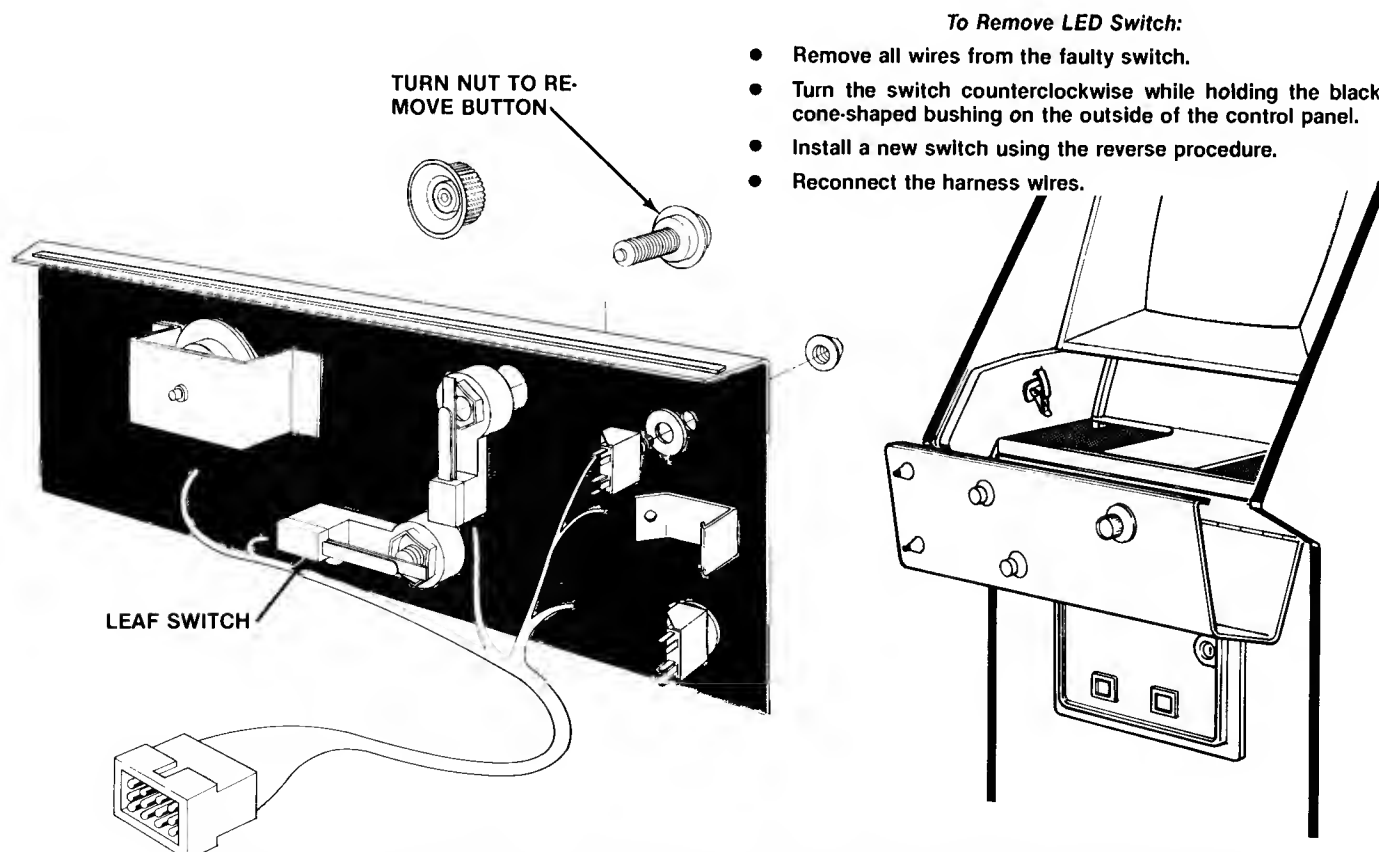
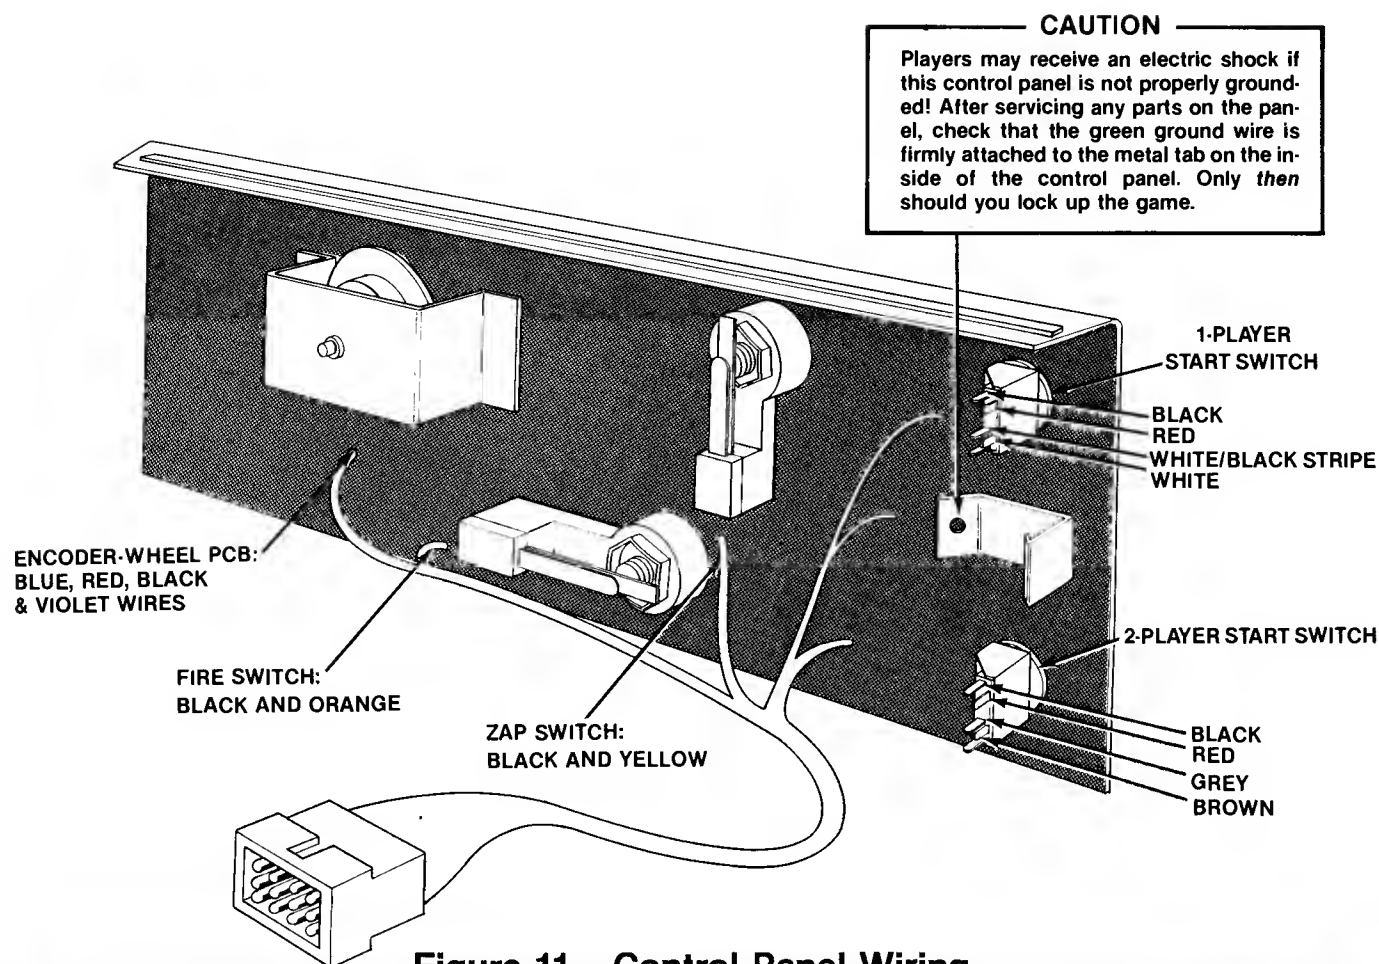

Figure 10 Opening the Control Panel and Replacing Switches
Figure 11 Control Panel Wiring
Reach through the opening and open the luggage-style latch, located at each end on the underside of the control panel (see Figure 10). Close the coin door. Lift up on the control panel at the top-most edge and tilt it toward you.
To replace a leaf switch, remove the screw with a Phillips-head screwdriver—see Figure 10.
The light-emitting diode (LED) switches on the control panel have a very low failure rate. In case a switch should ever be suspect, first test it per the description that follows. To replace the switch, refer to Figures 10 and 11.
- Connect multimeter leads to appropriate LED switch contacts (see Figure 11 for designation of switch contacts and meter lead placement). Check contacts (push and release the switch button) for closed and open continuity.
If the contacts do not operate sharply or always remain closed or open, then replace the LED switch as outlined in Figure 10. Reconnect the wires as shown in Figure 11.